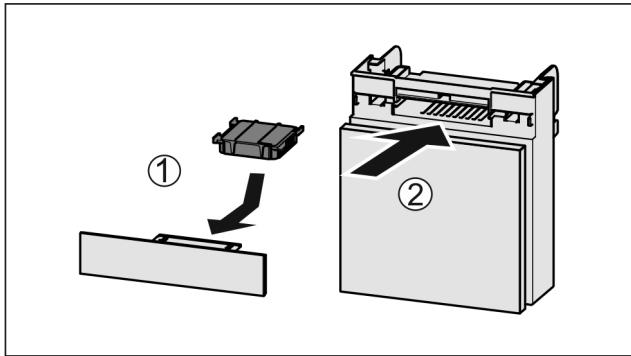

Fig. 97
- ▶ Insert the carbon filter as shown in the diagram Fig. 97 (1).
- ▶ Push the compartment in Fig. 97 (2).